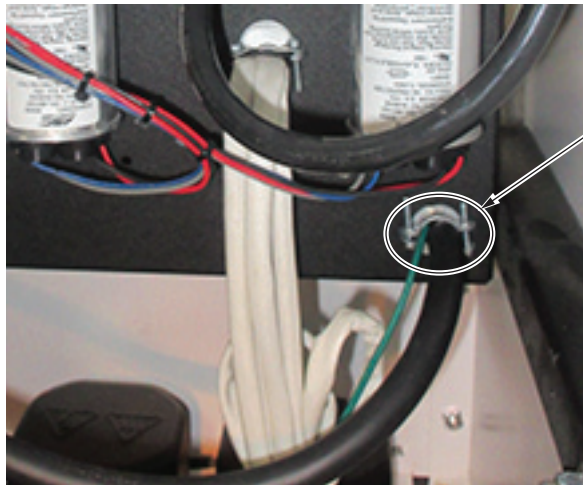

Figure 22 - Generator Box Cable and Ground Wire
6. See Figure 22. Route the generator box cable and ground wire, as follows.